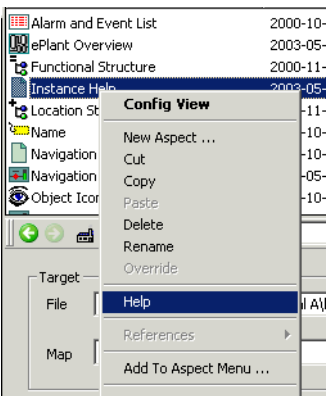
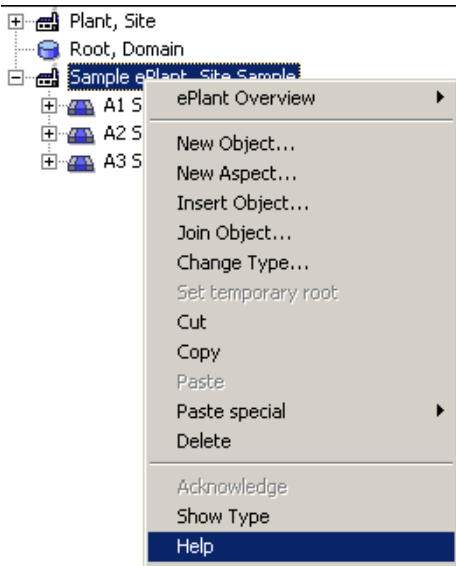

Figure 247. Aspect Context Menu - Help Aspect
Figure 248. Object Context Menu - Help Aspect
6. To view the help file, right-click on the object or the Help aspect and select **Help** from the context menu, see Figure 247 and Figure 248.